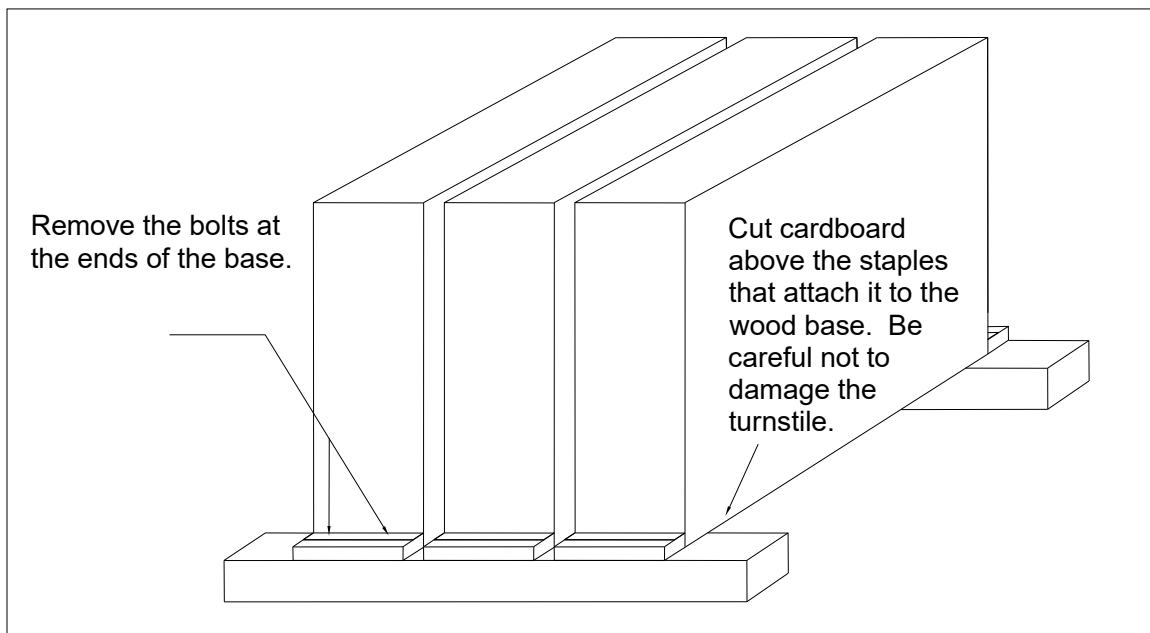

Figure 1
1. Remove the bolts at the ends of the turnstiles to separate from the skids and place turnstiles on the floor. With a box knife cut the cardboard flaps at the front of the housing next to the wood base. Cut the cardboard along the long side of the board just above the staples. Be careful not to damage the turnstile housings. Lift off the cardboard, the turnstile is protected by plastic and surrounded by foam. Refer to Figure 1.